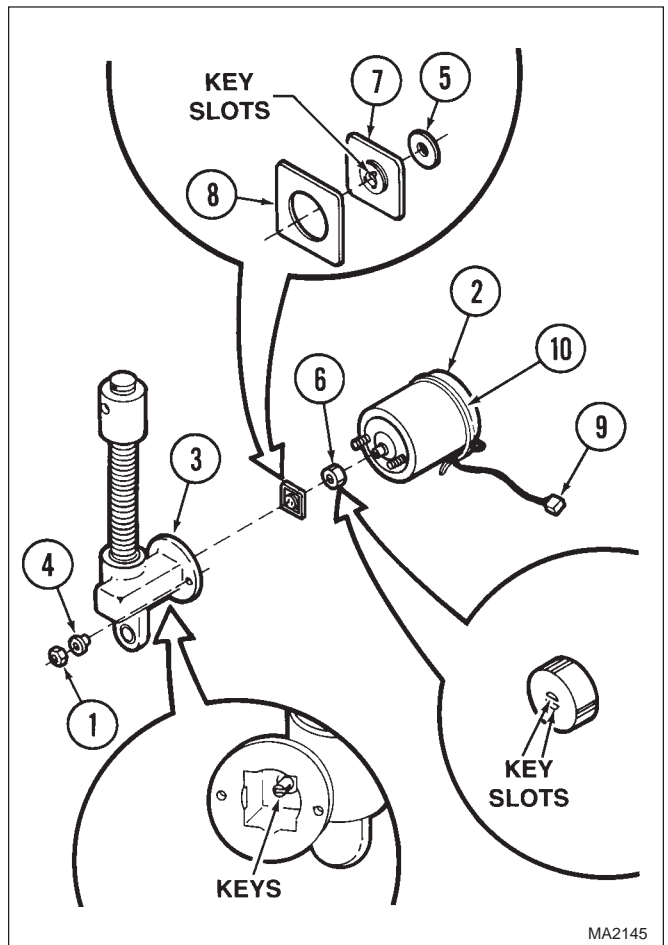

Figure 4-19. Trendelenburg Actuator Disassembly / Assembly
- (1) Remove two nuts (1, Figure 4-19) and motor assembly (2) from actuator mechanism (3).
- (2) Remove two shoulder washers (4) from actuator mechanism (3).
- (3) Remove spacer (5) and motor coupler (6) from shaft of motor assembly (2).
- (1) Position trendelenburg actuator wire harness (9, Figure 4-19) on housing of motor assembly (2) as shown in illustration and secure with cable tie (10).